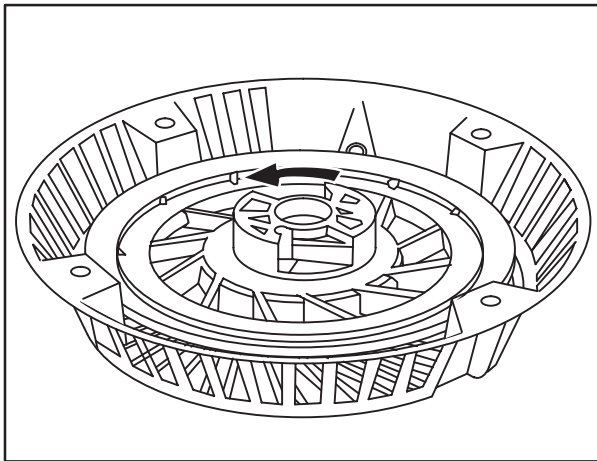

Fig. 71
- Invert assembly, rotate pulley counterclockwise until inner spring tab engages spring anchor, **Fig. 71**.